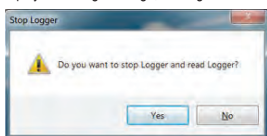

FIGURE 9
- 2.2.1. If the Data-Logger is still in use, the software will display a warning message, see Fig. 9